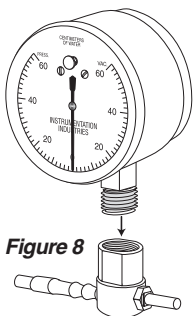

Figure 8
2. Screw **Vacuum/Pressure Gauge** into **BE 148-4 Adapter** and **HAND TIGHTEN**. (Figure 8)